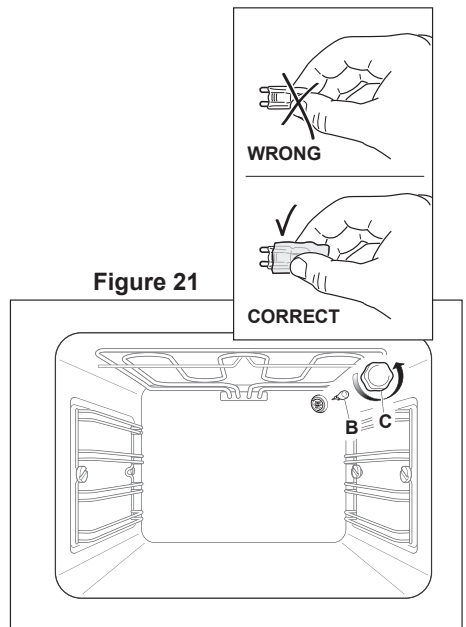

Figure 21
- Remove the protective cover “C” (fig. 21).